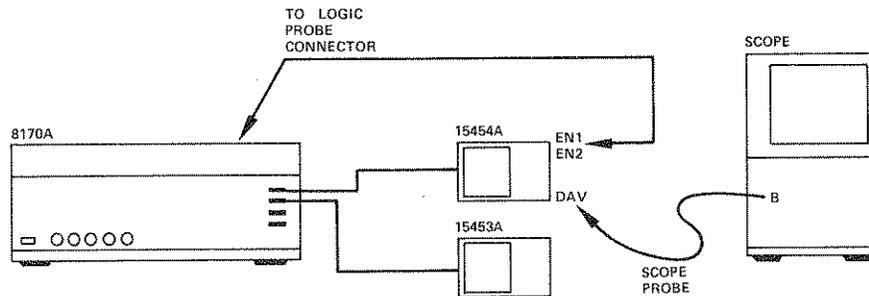

Figure 4-3. Test Setup for DAV/EN Function Test
6. Connect the equipment as shown in Figure 4-3.